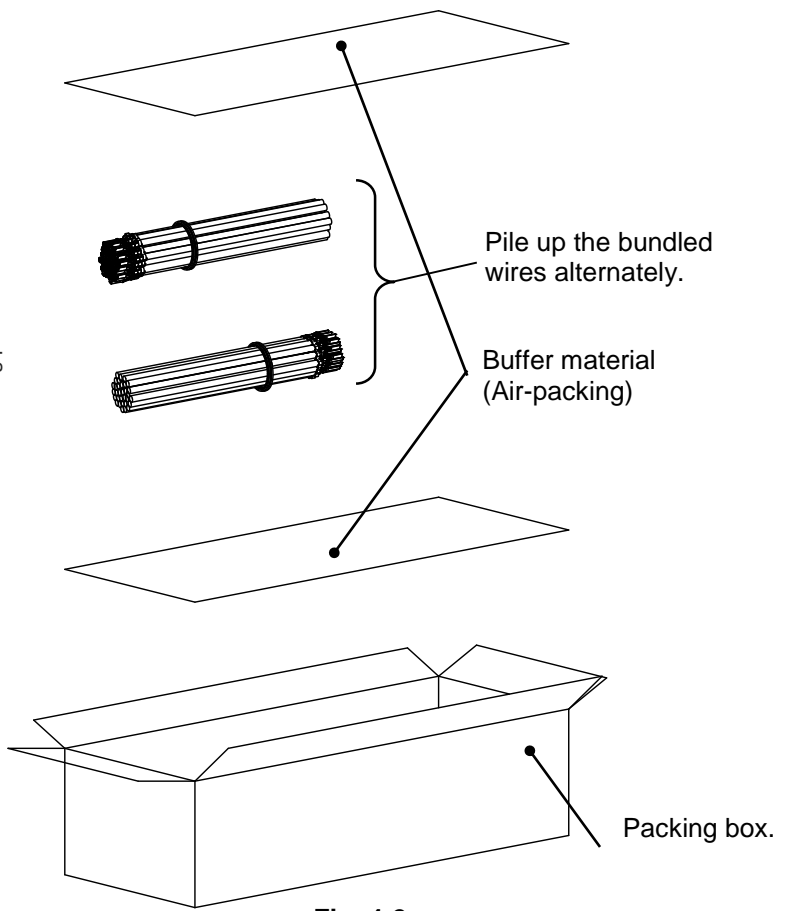

Fig. 4-2
- ※When packing bundled harnesses in package box, please stack product alternately so that no load is applied to connector for a long time. (Fig.4-2)
- ※Please lay buffer material on the bottom and top of the package box. (Fig.4-2)